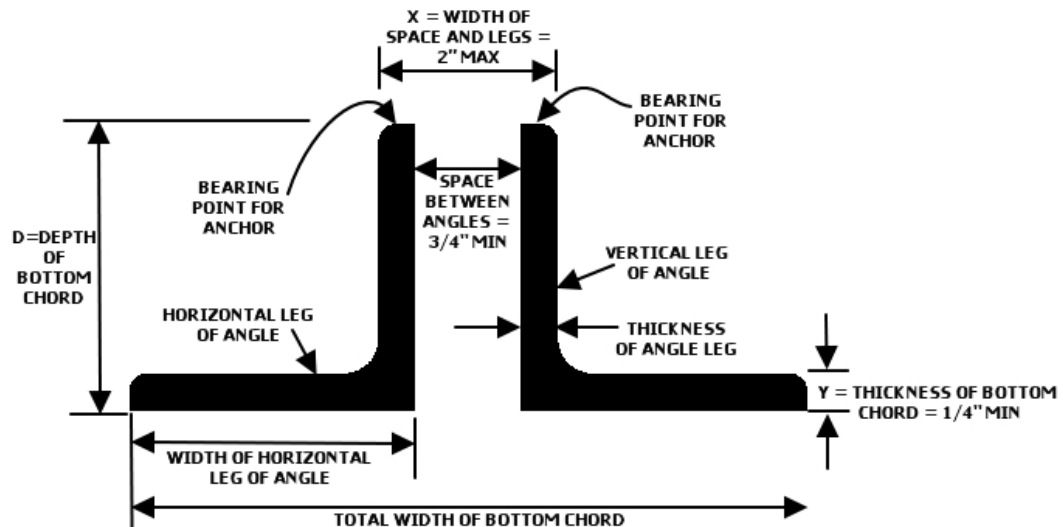

Figure 5 – Bottom Chord Detail
1. Bottom Chord (See Figure 5):